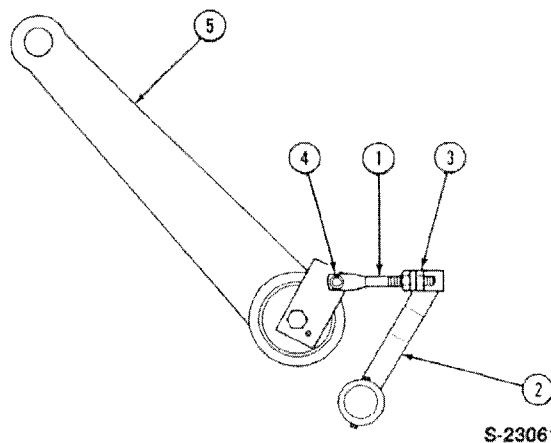

Figure 49
Reference — Figure 49
1. Loosen the locknut (3) on the position control rod (1) and remove the pin (4) from the link, Figure 49.